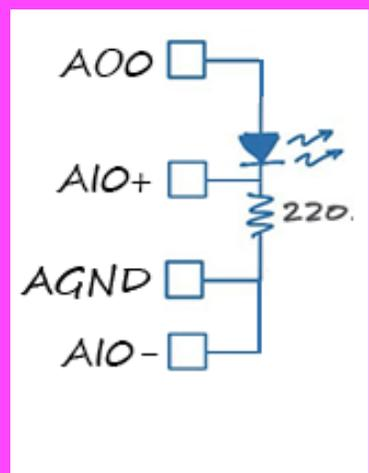

Figure 1 LED series circuit
Step 1: Build a series circuit from your Red LED and 220 ohm resistor with A00 acting as the power supply. You may follow the wiring diagram in Figure 1. Wire A10+ to the node that connects the LED and resistor, wire A10- to ground (AGND).